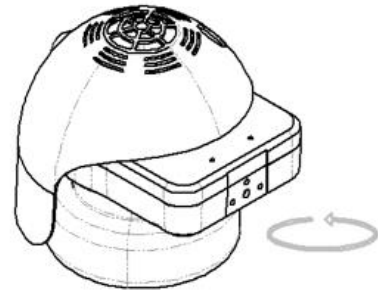

Figure 5
2. Attach the detector chamber to the ViraWarn Plus 100 unit by rotating it in a clockwise direction as shown in **Figure 5**.